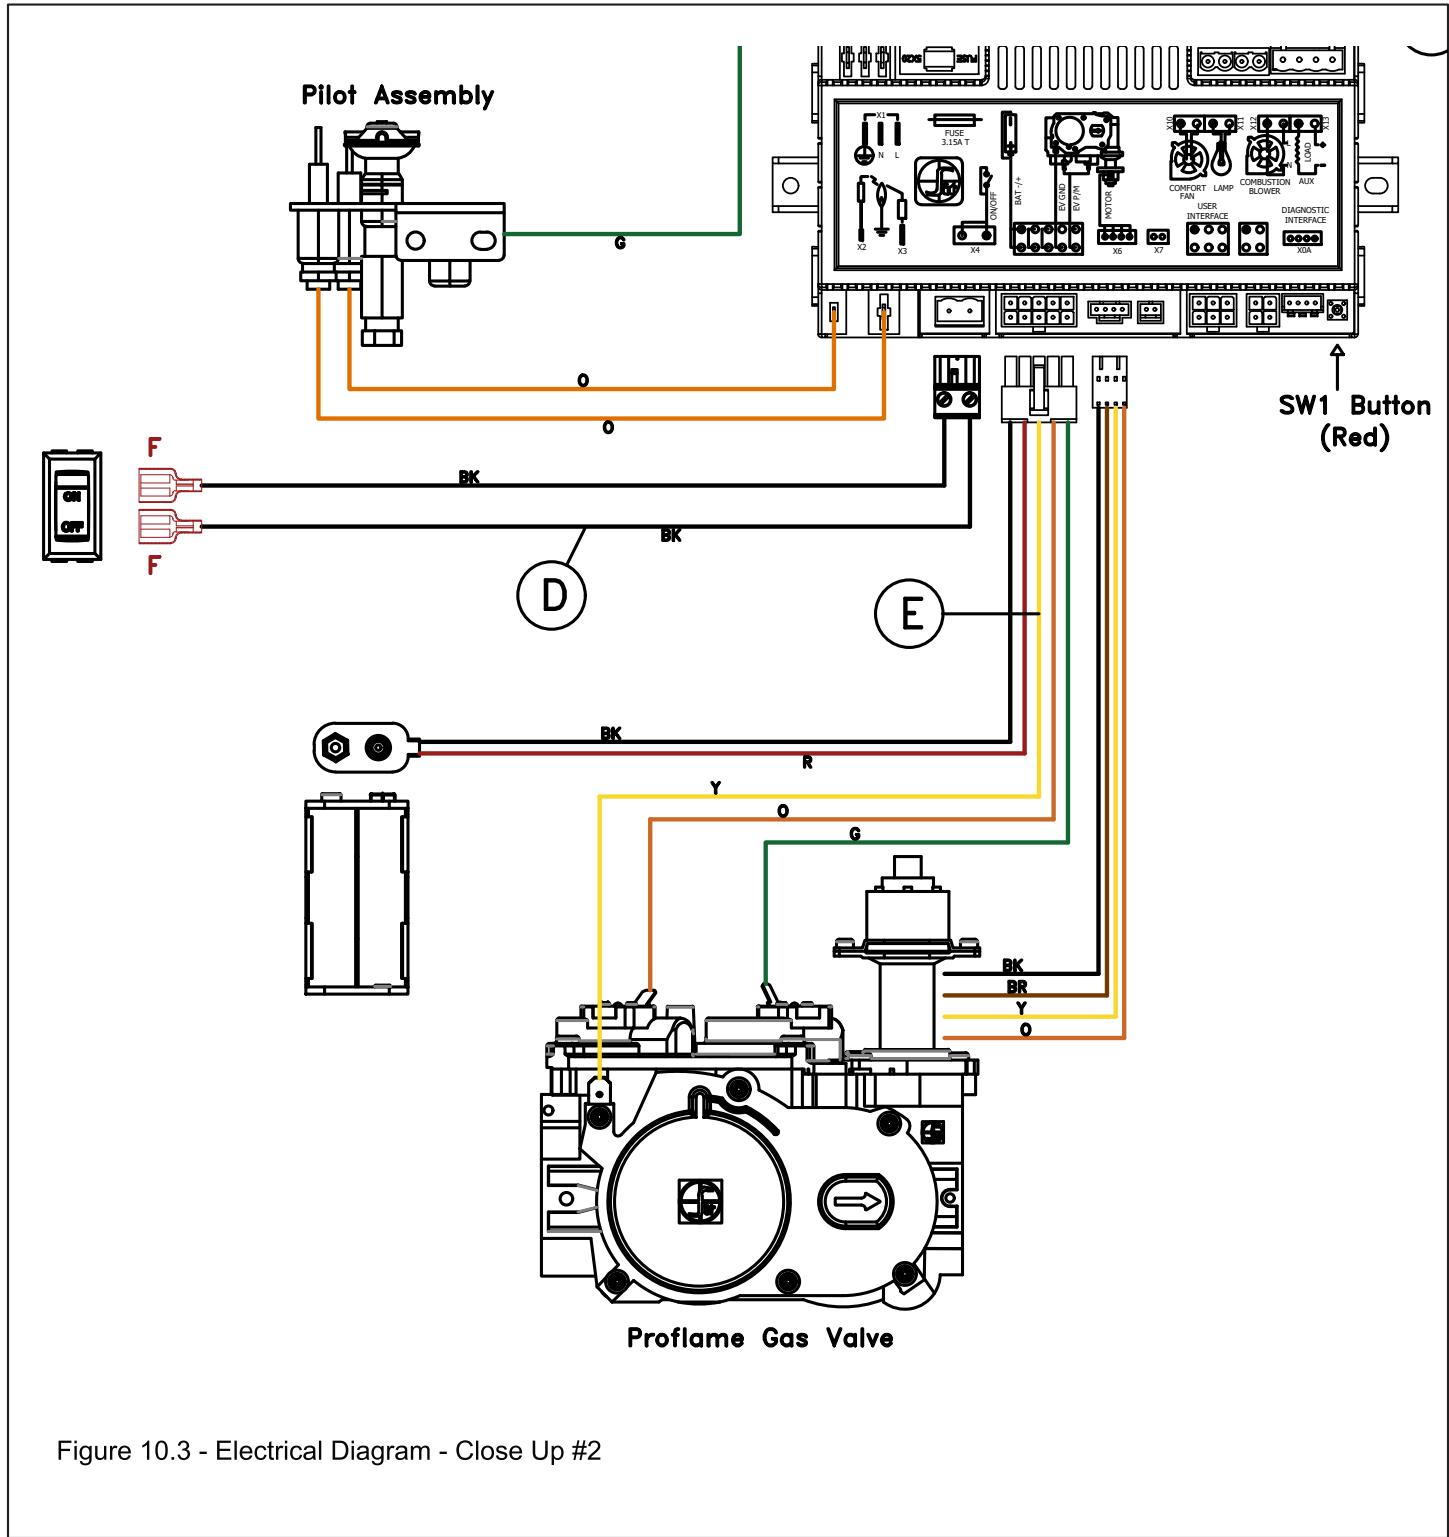

Figure 10.3 - Electrical Diagram - Close Up #2
- Figure 10.3 shows a close up of the wiring diagram. This figure shows the pilot assembly, on / off rocker switch, battery back-up, valve, and SW1 Remote Learn Button.